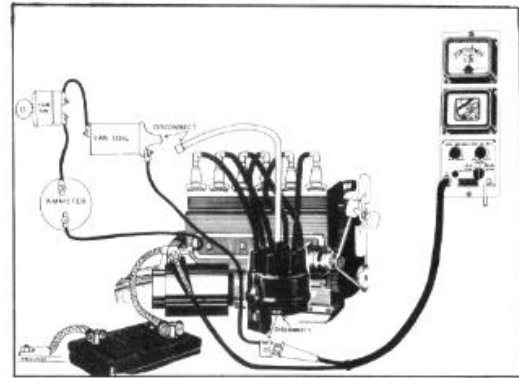

FIGURE 16
1. Connect leads of coil breaker unit as shown in Figure 16.